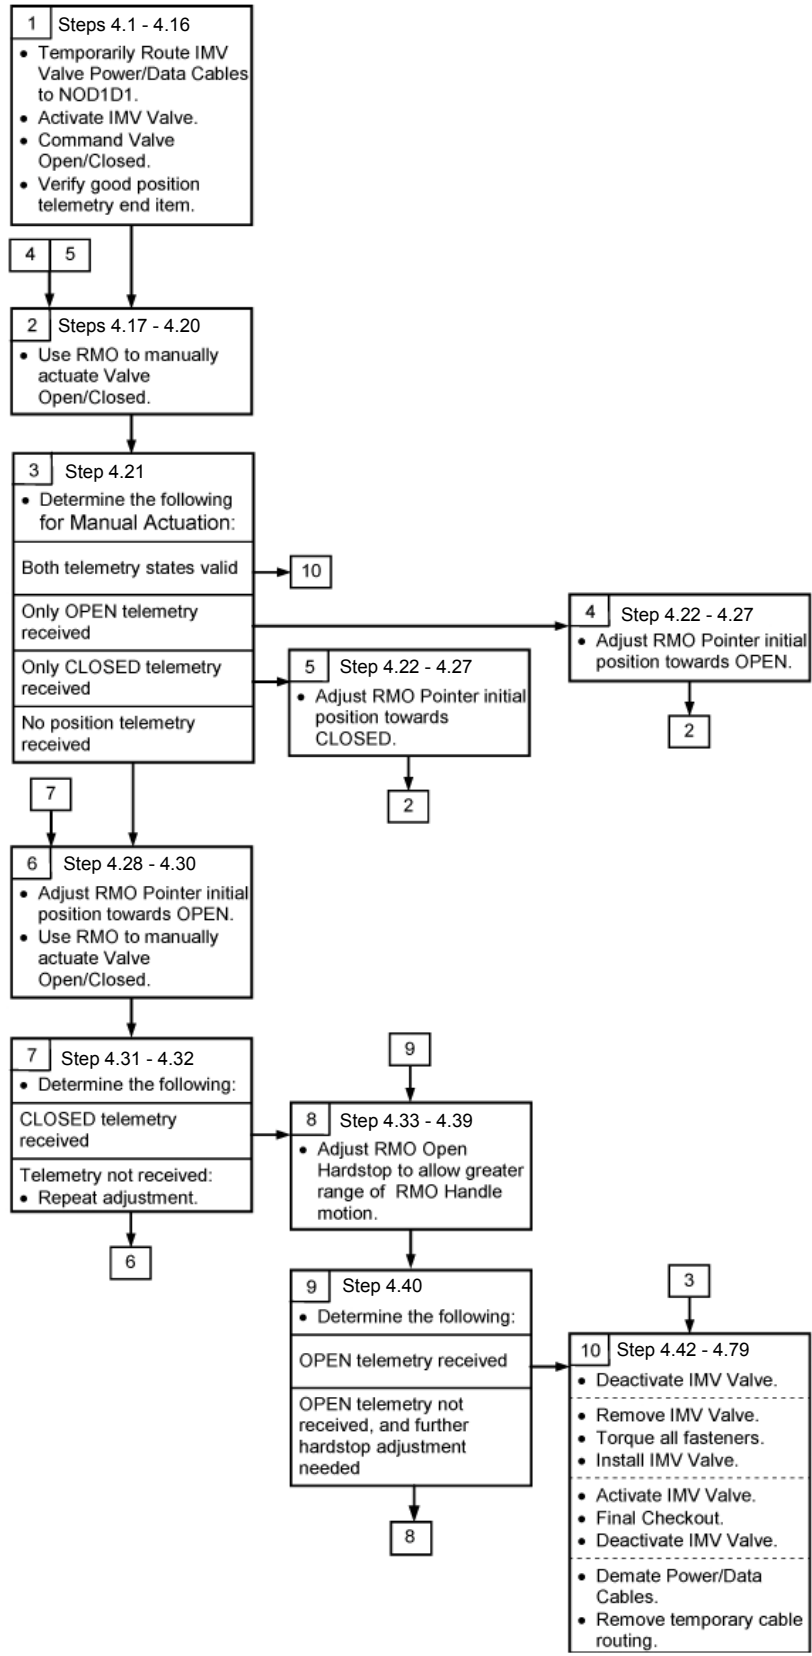

Figure 13.- RMO Checkout Overview.
1. Figure 13 provides a graphical overview of the RMO Checkout and Adjustment activities performed in step 4.